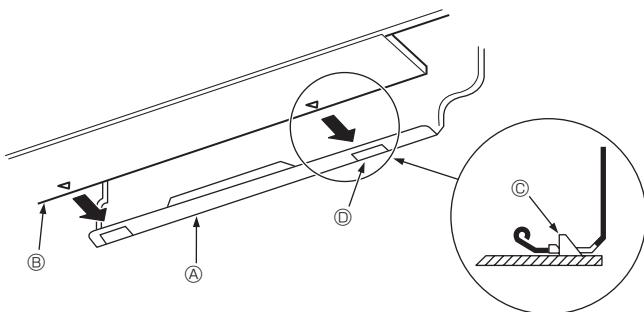

Fig. 3-11
3. While inserting the refrigerant piping and drain hose into the wall penetration hole (penetration sleeve), hang the top of the indoor unit to the mount board ①.
5. Fasten by pushing the bottom part of the indoor unit onto the mount board ①. (Fig. 3-11)
- * Check that the knobs on the bottom of the indoor unit are securely hooked into the mount board ①.
① Mount board
② Indoor unit
③ Hook
④ Square hole